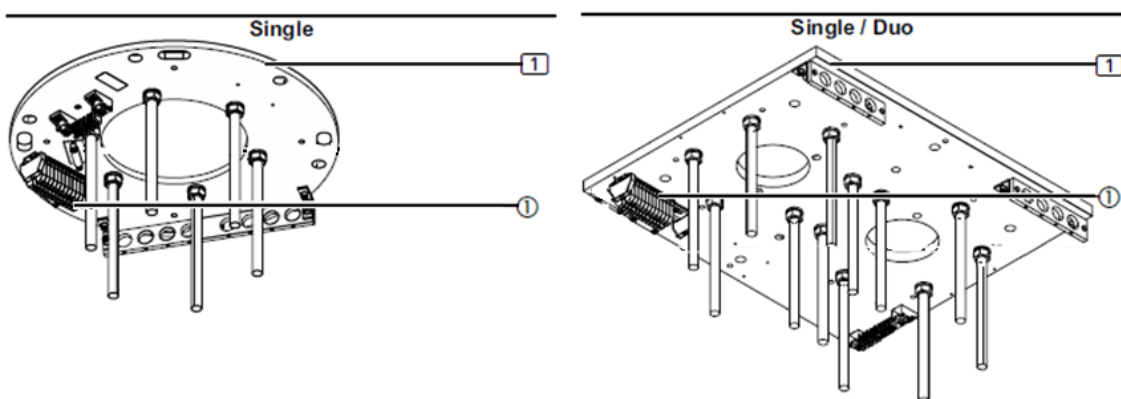

Fig. 25 Connection of the power supply cables on the interface board
Figure 25 shows a simplified illustration of the interface board (1) without extension arm and cables, etc. Wiring shall always start with the equipment grounding wires.